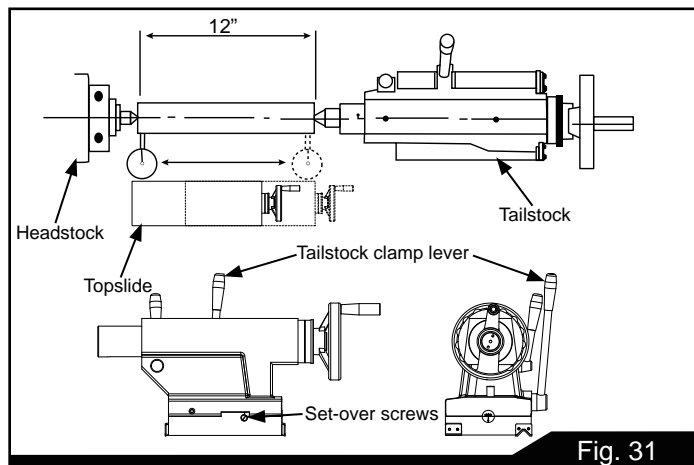

Fig. 31
1. Fit a 12" ground, center-drilled, steel bar between centers of headstock and tailstock (Figure 31).